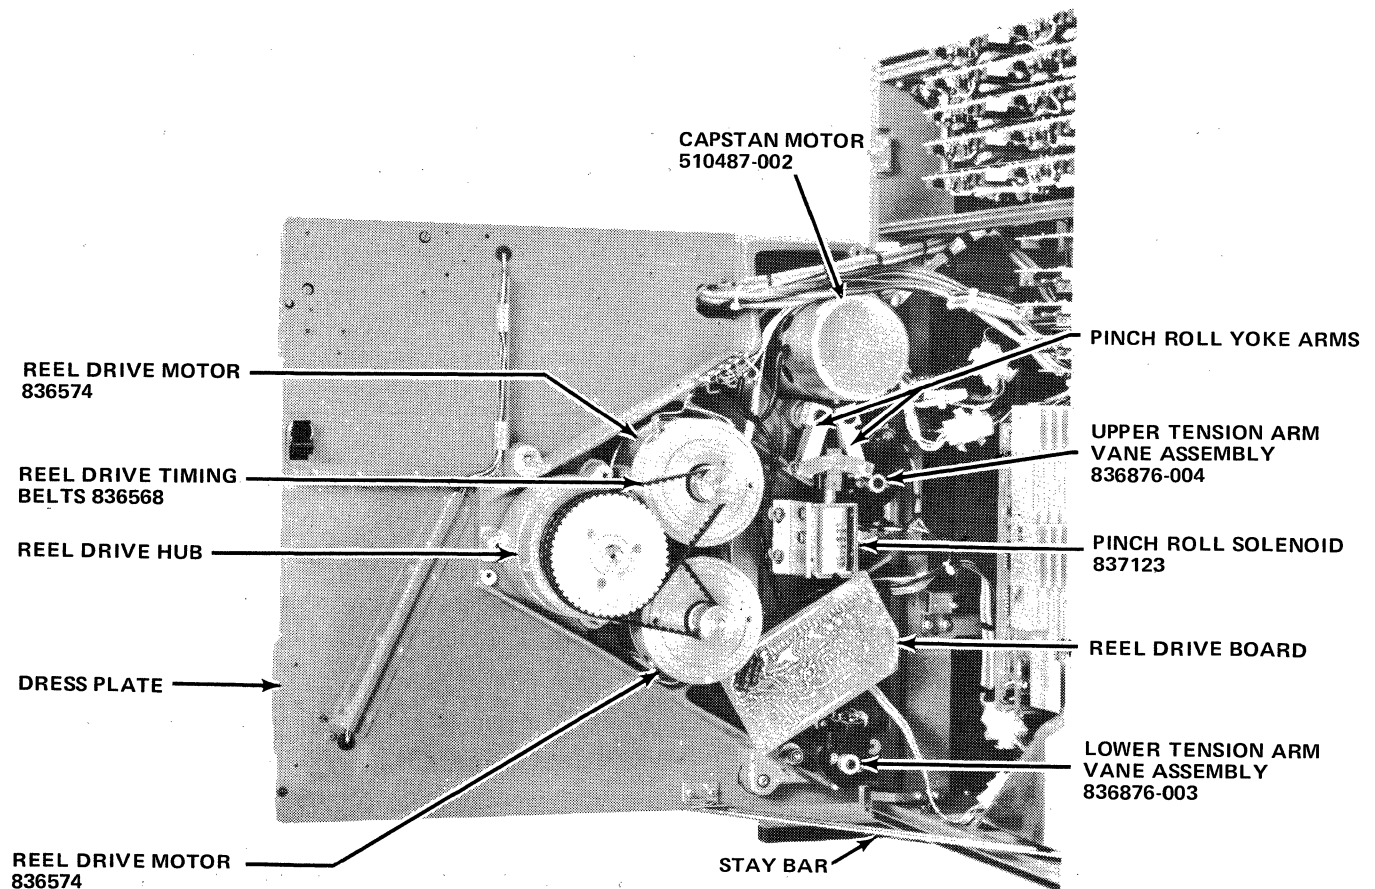

Figure 7-2. Transport Panel, Rear View
1. CAPSTAN MOTOR ASSEMBLY REPLACEMENT – Refer to Figure 7-2